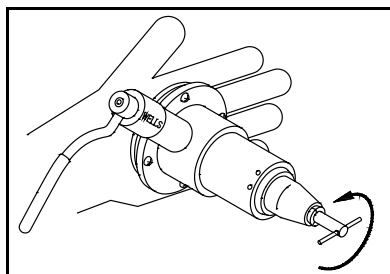

Figure 6.
- 6.5 Hold the steel clutch plate to keep it from turning while you remove the collet. See Figure 6.